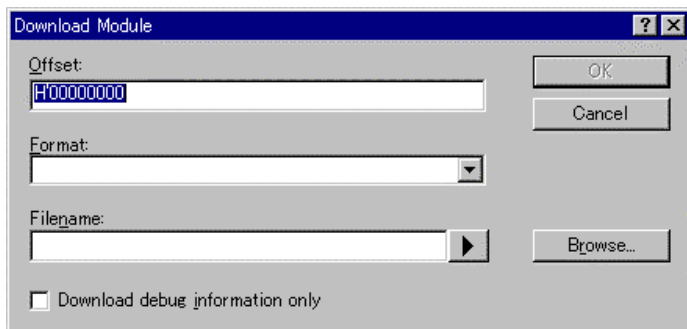

Figure 2.8: Download Module Dialog
3. Click the "Add" button. The dialog displayed in figure 2.8 is displayed.